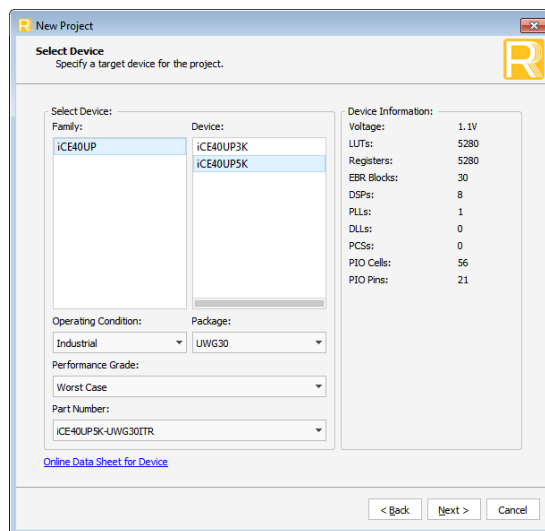

Figure 4.2. Device Family Selection
4. In **Select Device** as shown in Figure 4.2, select **ICE40UP** in **Family** and the targeted device in **Device**. Click **Next**.